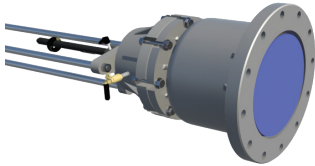

Figure 1
F.4) Install saw mandrel into the P-20 housing and through the tapping machine housing. Align the bottom of completion plug so that it is flush with the bottom of the P-20 housing (see Figure 1). **NOTE:** If completion plug is not aligned flush with the bottom of P-20 housing the completion process as outlined in this document will not be successful.